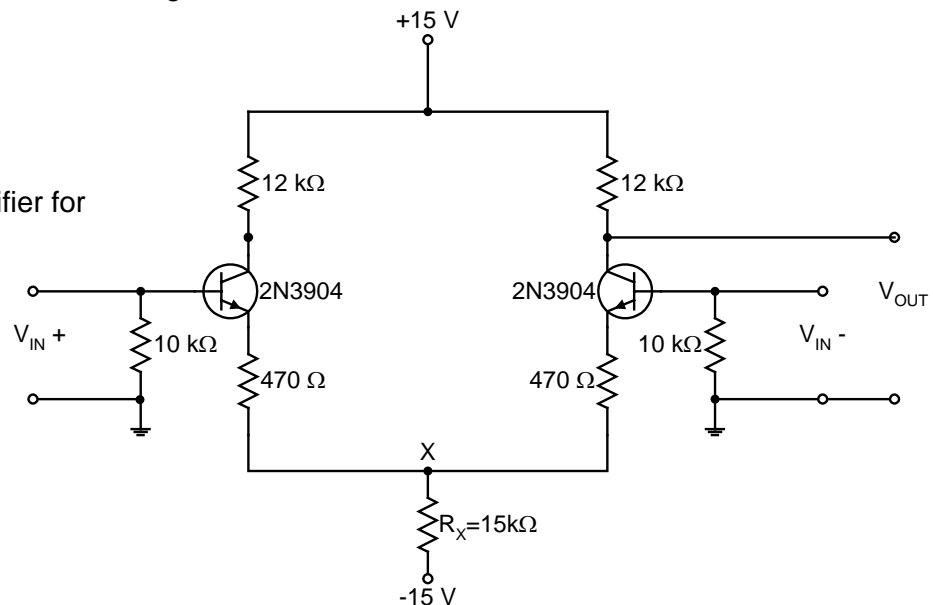

Figure 1: Differential amplifier for experiment 1
1. Construct the differential amplifier of Figure 1.